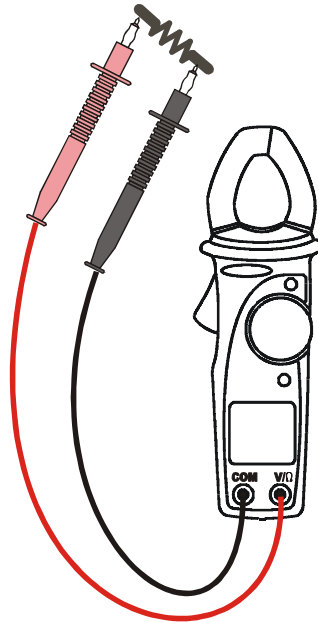

Fig. 7: Use of clamps for resistance measures
3. Insert the two long ends of test leads to the desired circuit (see Fig. 7); the reading will be displayed with automatic detection of the appropriate range.
4. Pressing the **R-H** key you can select manually the measurement ranges the measurement ranges in cyclic order. Press the **R-H** key 2 seconds at least to come back to AUTOMATIC range selection.